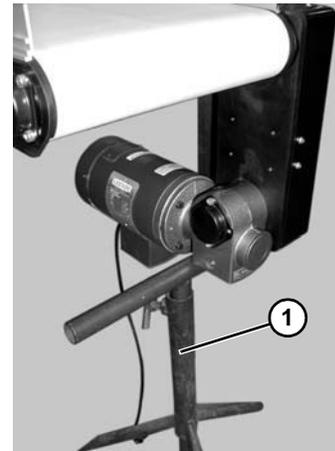

Figure 59
- Use a temporary support (Figure 59, item 1) to support Gearmotor.